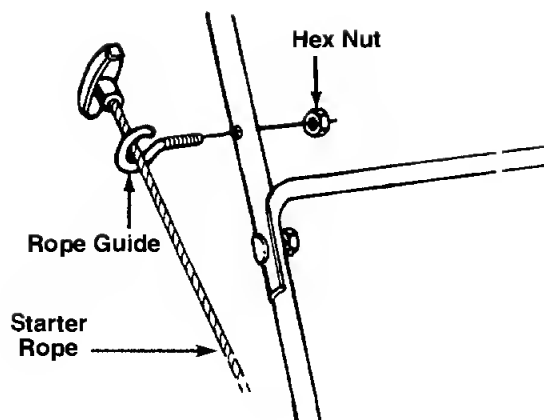

FIGURE 11.
2. Place the rope guide around the starter rope, so the opening in the rope guide is toward the front of the mower as shown. Insert the rope guide into the right side of the handle, and secure with hex lock nut. See figure 11.